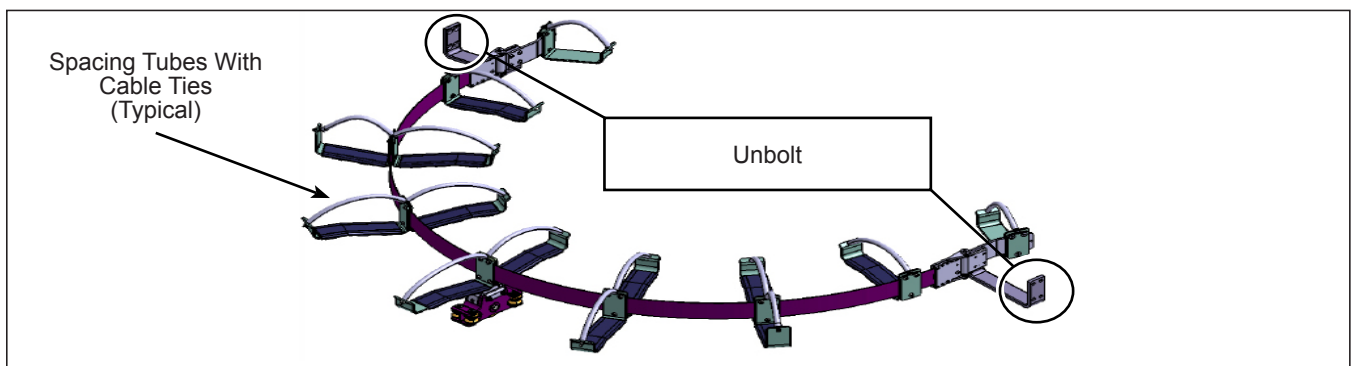

Figure 3 - Remove the Spacing Tubes and Unbolt the EGS
- 1.6.1. Cut the cable ties retaining the spacing tubes that extend across the top of the hoses and cables. Discard them. See Figure 3.
- 1.6.2. Unbolt the EGS from the front and the rear section of the vehicle. See Figure 3.